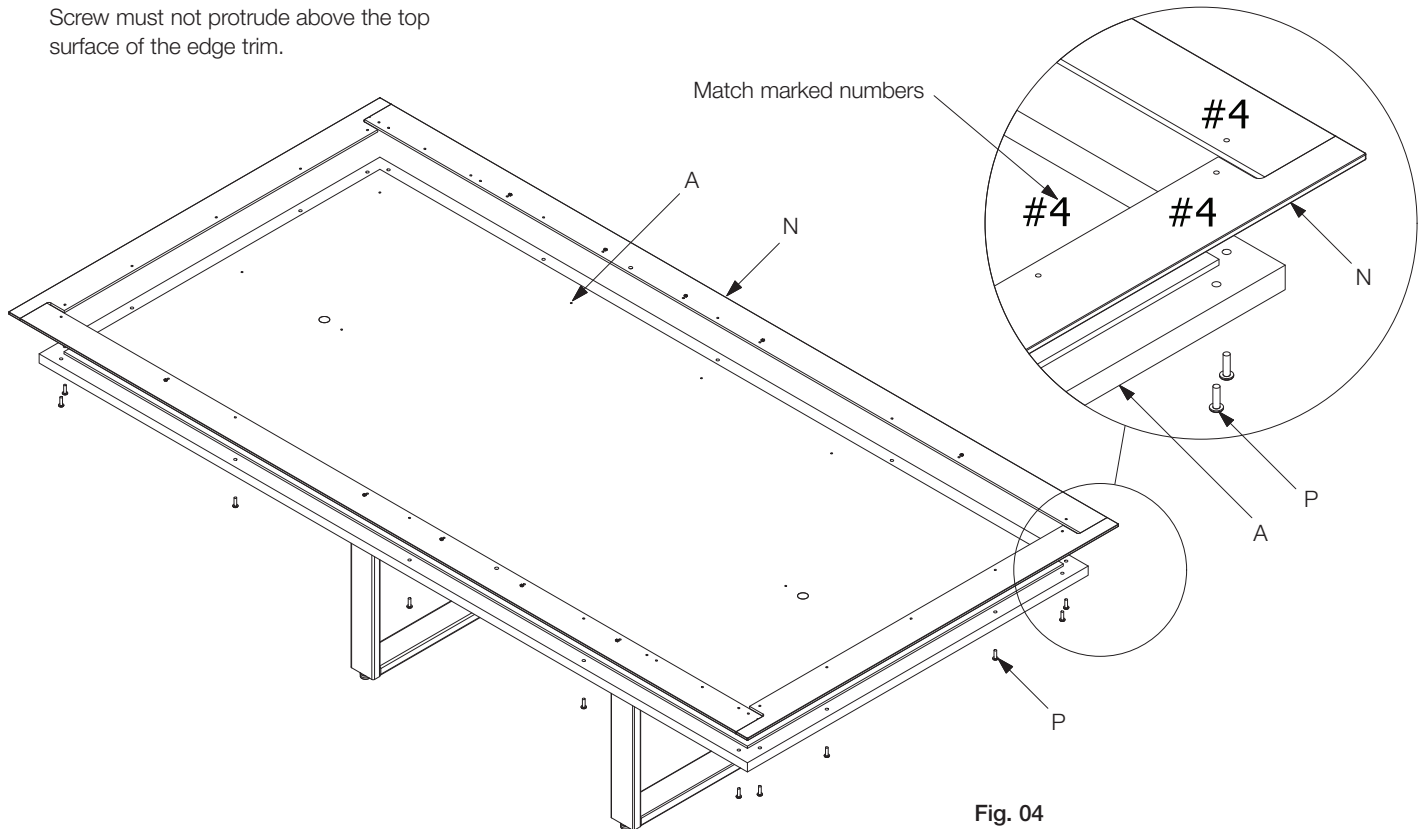

Fig. 04
2.2.1. If table is equipped with power drawers, attach edge support above power drawer (T) using fastener (U). If not, skip this step. (See Fig. 04)
2.2.2. Layout edge trims (N) around subtop (A) matching the numbers marked on both, making sure the numbers always face up. (See Fig. 04)
2.2.3. Secure edge trims to subtop from underneath using fastener (P) into threaded holes of edge trim. Flush the edge trims by loosening fasteners (P) and shimming to make any necessary adjustments. (See Fig. 04)